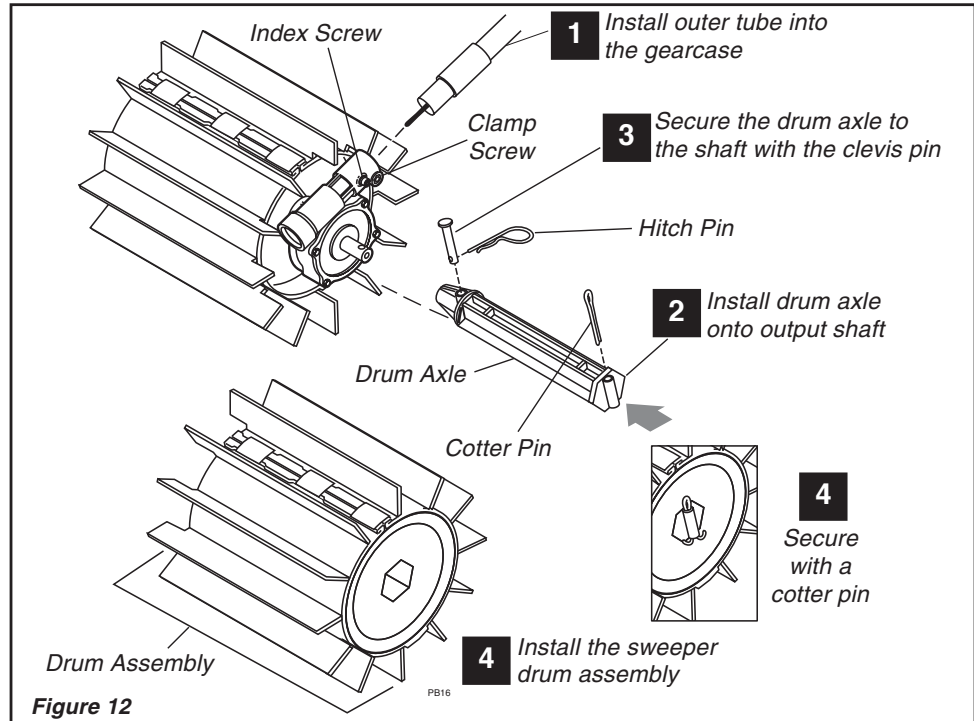

Figure 12
1. Insert the end of the outer tube into the gearcase and push until it bottoms. The outer tube should go into the gearcase about 1-1/2 in. (38 mm). If the outer tube stops before bottoming, rotate it until you feel the inner mainshaft (driveshaft) splines engage the gearcase. Then push the outer tube all the way in. See Figure 12.